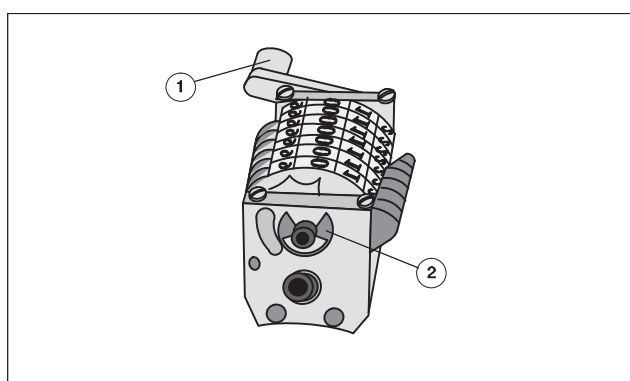

Fig. 6 Straight numbering box: turn over control lever
The numbering boxes can be indexed from the right or the left by the drive cams. To do so, insert the control lever (Fig. 6/1) on the corresponding side of the numbering box; this does not change the counting method of the numbering box (forwards/backwards).
1. Pull off the circlip (Fig. 6/2).
2. Pull out the control lever (Fig. 6/1) with the shaft.
4. Press the circlip (Fig. 6/2) back on the shaft.